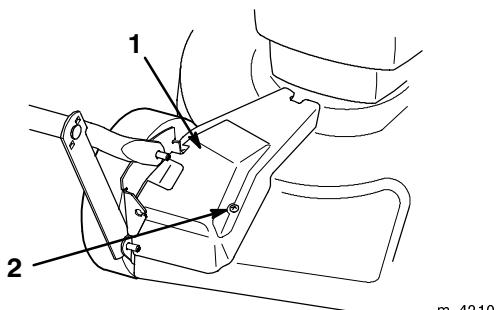

Figure 26
1. With the engine turned off, remove the bolt that secures the belt cover (Fig. 26) and remove the cover.